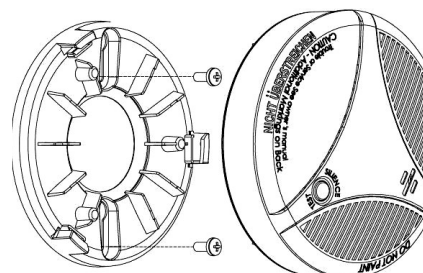

Fig. 9: Mounting the Mounting Bracket
9. Line up the slot in the mounting bracket with the slot in the Smoke detector. Push the Smoke detector onto the mounting bracket and turn it clockwise to secure. Gently pull the Smoke detector to ensure it is securely attached to the mounting bracket, shown in **Fig. 9**.